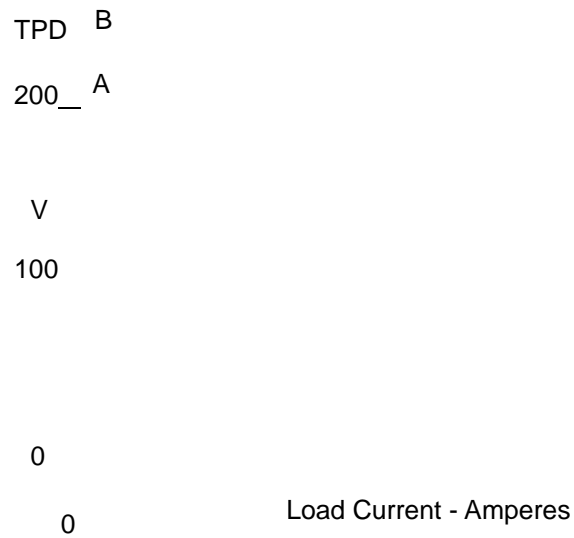

Figure 1
1. For the alternator load characteristic curves shown in Figure 1:-